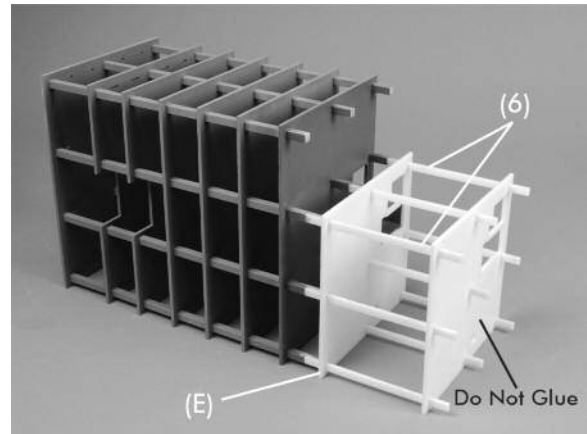

Figure 15
Glue parts (6) to the top of the long columns using the already installed part (3) to splice them together. See Figure 15.